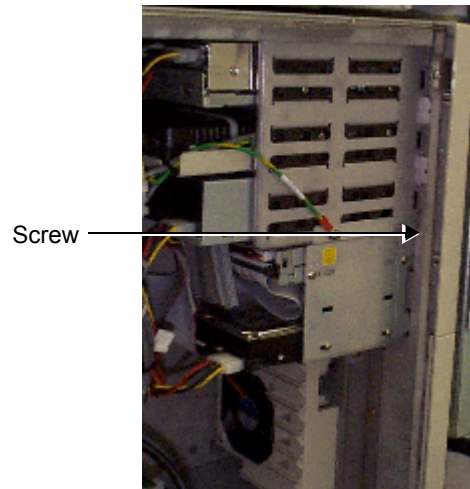

Figure 8-58 BEP1 - Front Cover Screw
- 1) Remove the screw that secures the front cover in position - see Figure 8-58 on page 8-65.
- 2) Replace and tighten the screw that secures the front cover in position - see Figure 8-58, above.